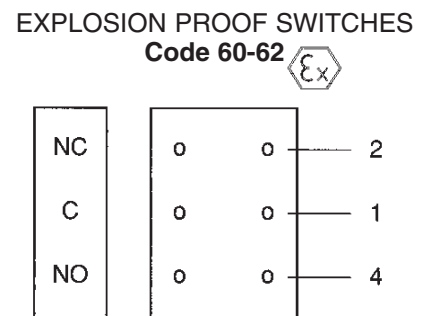

Fig. 3
- One independently adjustable SPDT switches - see fig. 3.